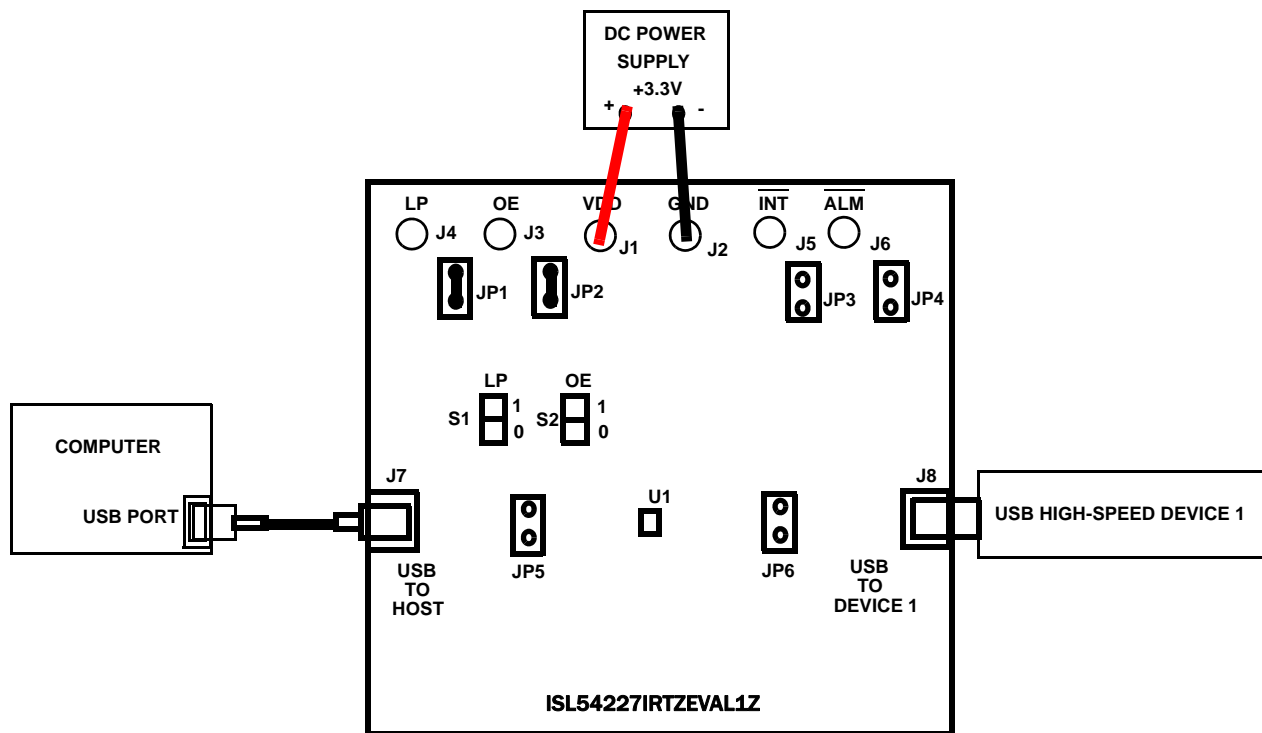

FIGURE 2. BASIC EVALUATION TEST SETUP BLOCK DIAGRAM
The evaluation board contains USB connectors, banana jacks, and toggle switches, to allow the user to easily interface with the IC to evaluate its functions, features, and performance. For example, with the board properly powered and configured as shown in Figure 2 you can control the logic pins with the toggle switches, S1 (LP) and S2 (OE), to connect and disconnect the USB device from the USB host (computer).
Using the ISL54227IRTZEVAL1Z Evaluation Board (see Figure 2)